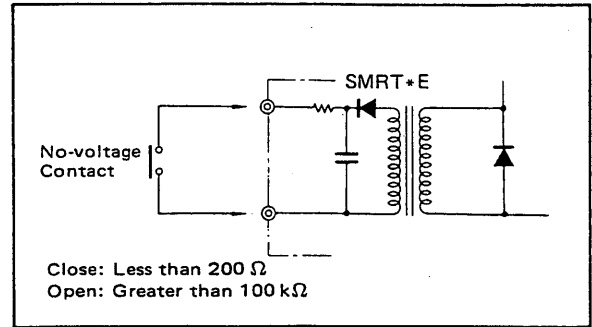
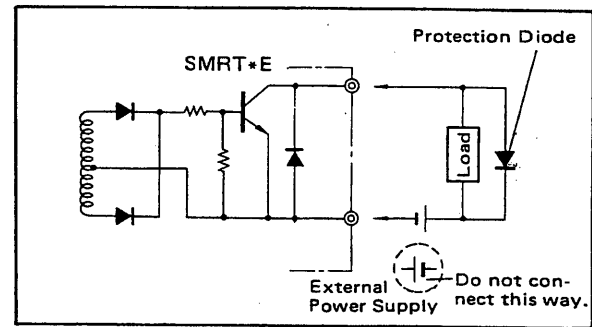

Figure 3-1. External Contact Input Connections.
Figure 3-3. Contact Output Connection to External Load.
- (1) Furnish all cable ends with solderless crimp-on lugs.
- (2) Connect external voltage-and/or no-voltage-levels contact input so that the values specified in Figures 3-1 and 3-2 are obtained. Conductor resistance and consequent voltage drop must be taken into account. For contact input specifications, refer to GS 1B4D4-E at the end of this manual.
- (3) When driving remote equipment such as fail and alarm outputs, using transistor switch contacts, wire in accordance with the following instructions.
- Connect a protection diode (surge absorber) in parallel with inductive loads such as relays to protect the transistor switch from transients when energizing or deenergizing external circuits. (See Figure 3-3).
- Match the power polarity to the terminal markings when connecting the power supply used to drive the external equipment. (See Figure 3-3).